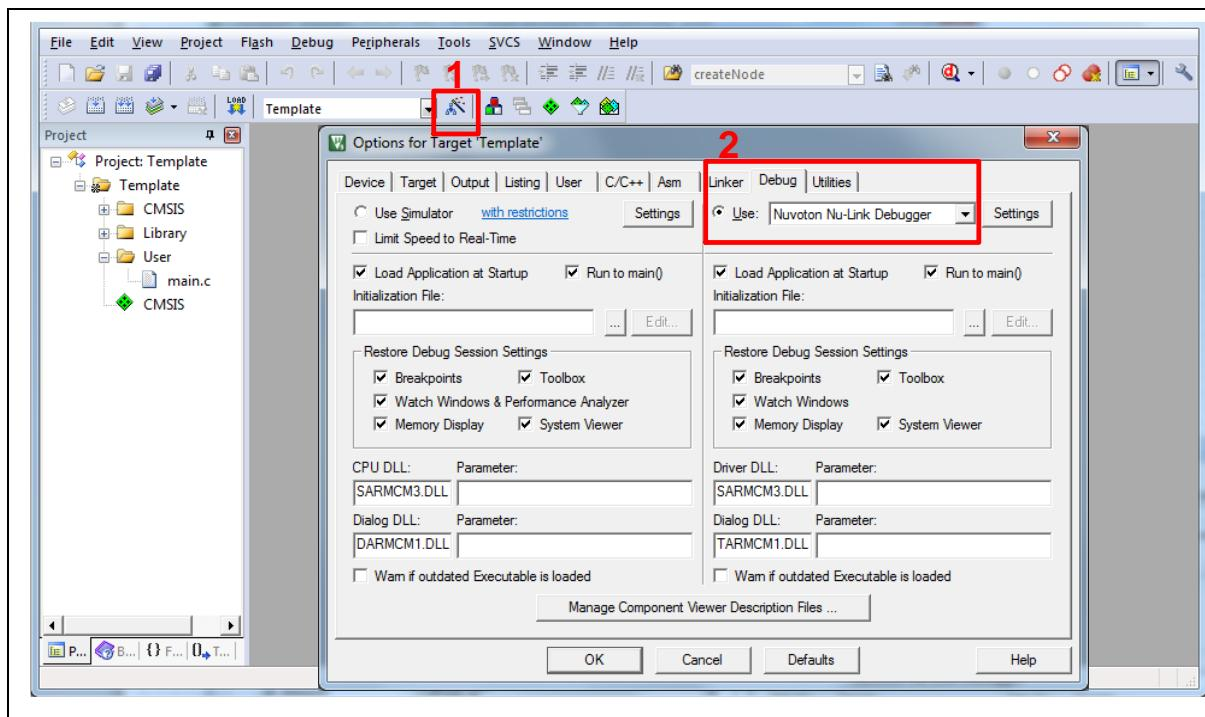
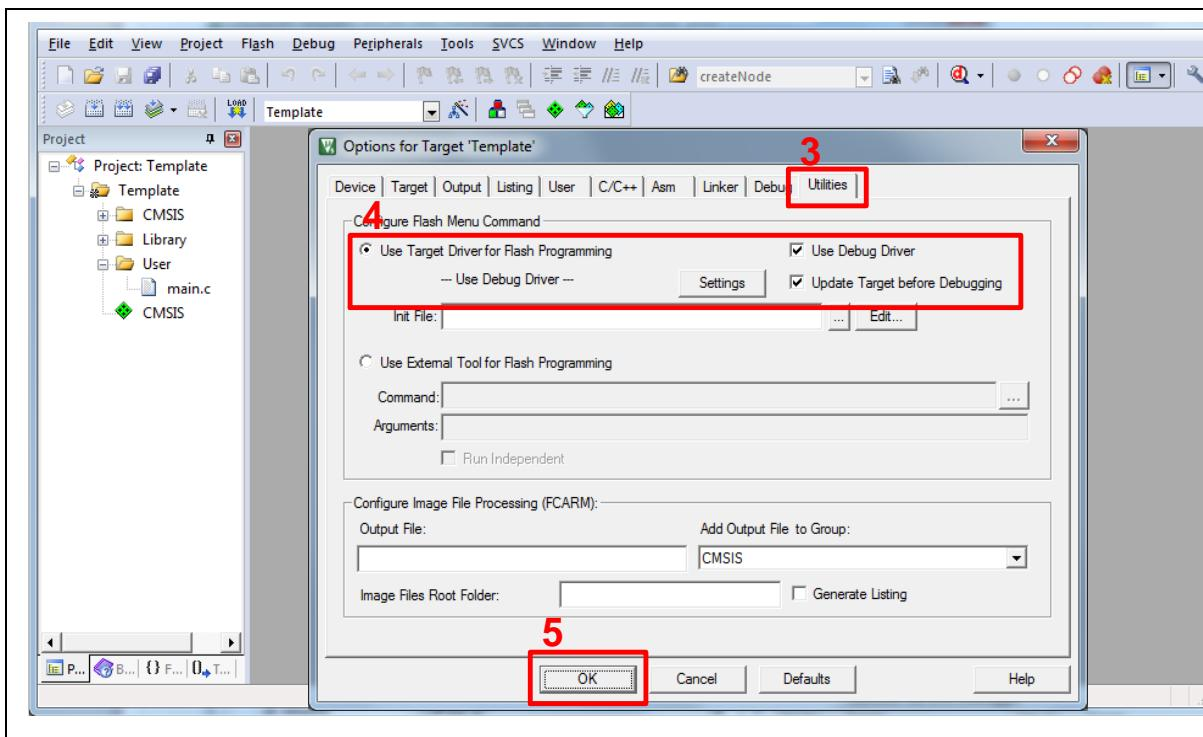

Figure 4-8 Debugger Setting in Options Window
Figure 4-9 Programming Setting in Options Window
2. Make sure the debugger is “Nuvoton Nu-Link Debugger” as shown in Figure 4-8 and Figure 4-9.
Note: If the dropdown menu in Figure 4-8 does not contain “Nuvoton Nu-Link Debugger” item, please rework section 4.2.